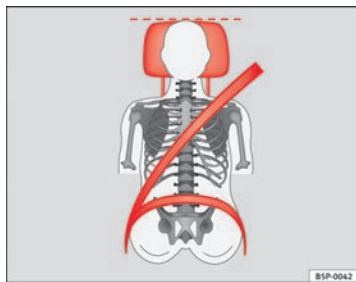
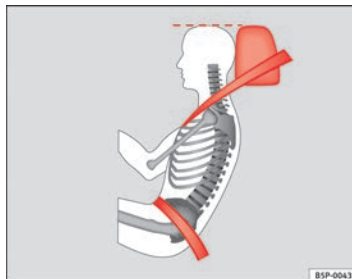

Fig. 64 Front view: head restraints and seat belts correctly adjusted
Fig. 65 Side view: head restraints and seat belts correctly adjusted
- Adjust the head restraint so that the top is at the same level as the top of your head or as close as possible to the same level as the top of your head, at least at eye level ⇒ fig. 64 and ⇒ fig. 65.